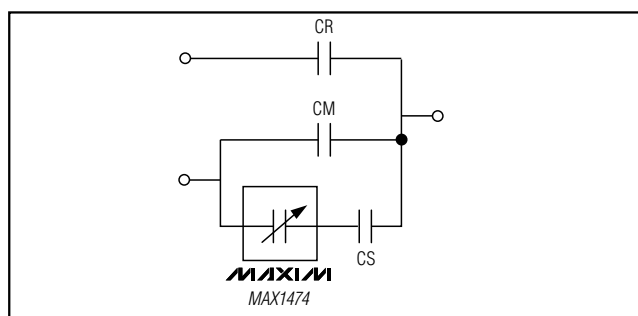

Figure 4. Electronic Offset Trimming
The MAX1474 offers users a wide range of applications, including trimming of regenerative receivers, oscillators, RFID tags, and capacitive sensors. A capacitive sensor is usually made of two capacitors. One capacitor (CM) changes with the sensed function, such as pressure, acceleration, or humidity. The second capacitor (CR) is used as a reference capacitance that does not vary with the sensed function. In most applications, it is needed to detect the difference between these capacitance values. Due to manufacturing tolerances, there are normally offsets between CM and CR, which can easily be nulled out by the FLECAP as shown in Figure 4.